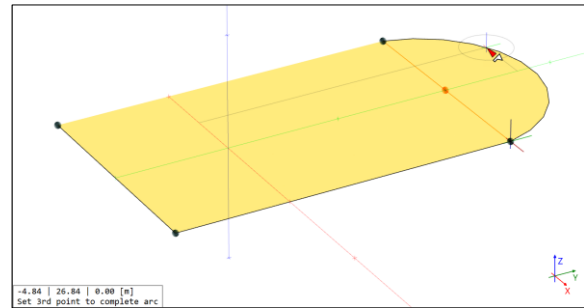

Figure 7.16 Setting the point that is on the arc after the end point of the arc was defined.
3. As a last step, a point must be chosen that is on the arc, also in 3D coordinates (Figure 7.16). Its position determines the opening angle and the radius of the arc.